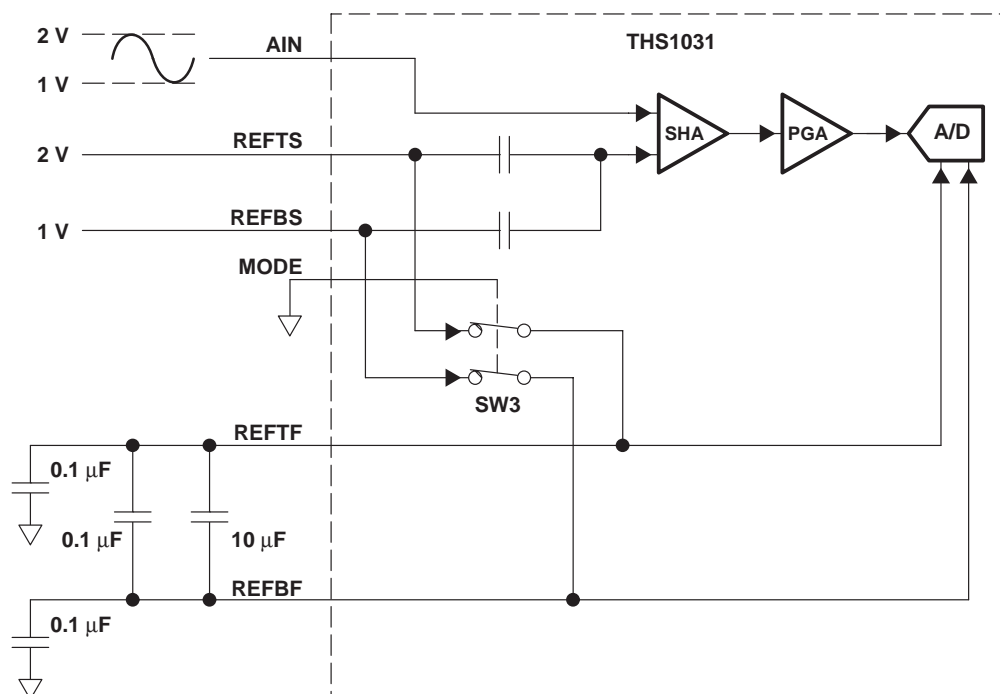
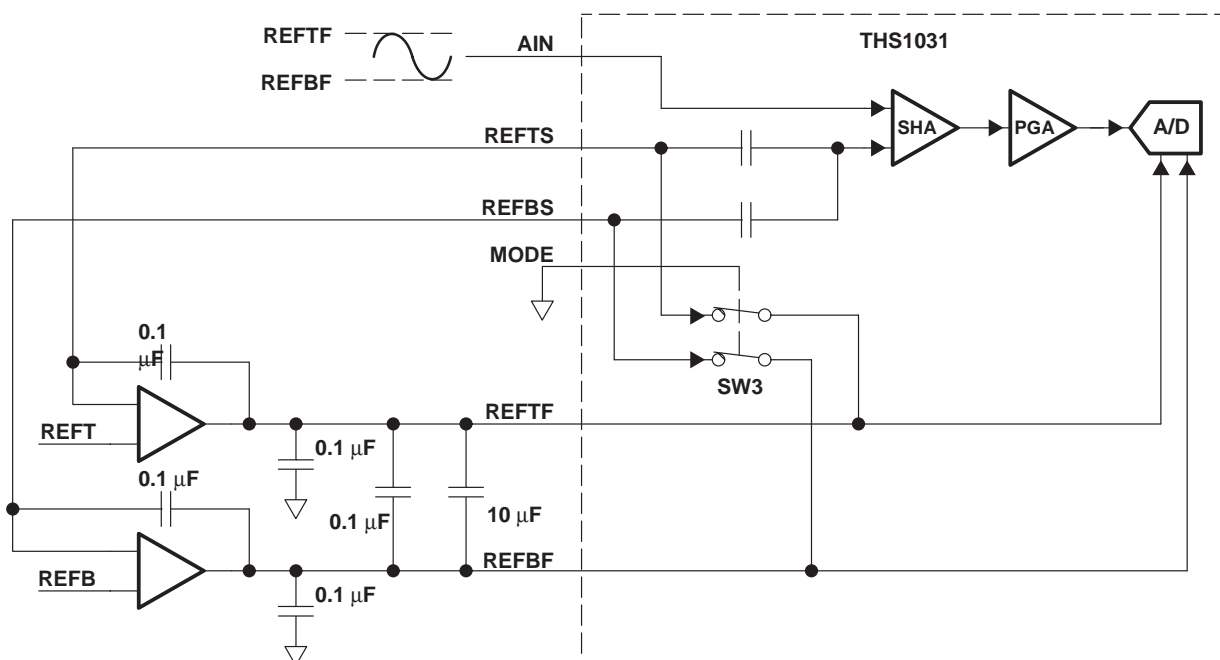

Figure 15. External ADC Reference Mode
Figure 16. Kelvin Connection With External ADC Reference Mode
- **External ADC Reference Mode:** A single-ended analog input is accepted at the AIN pin where the input signal is bounded by the voltages on the REFTS and REFBS pins. Figure 15 shows an example of applying external reference to REFTS and REFBS pins in which REFTS is connected to the low-impedance 2-V source and REFBS is connected to the low-impedance 2-V source. REFTS and REFBS may be driven to any voltage within the supply as long as the difference $(REFTS - REFBS)$ is between 1 V and 2 V as specified in Table 2. Figure 16 shows an example of external-reference using a Kelvin connection to eliminate line voltage drop errors.